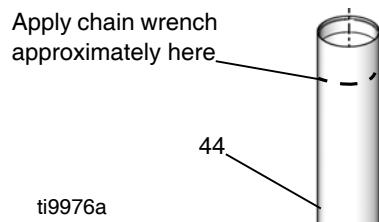
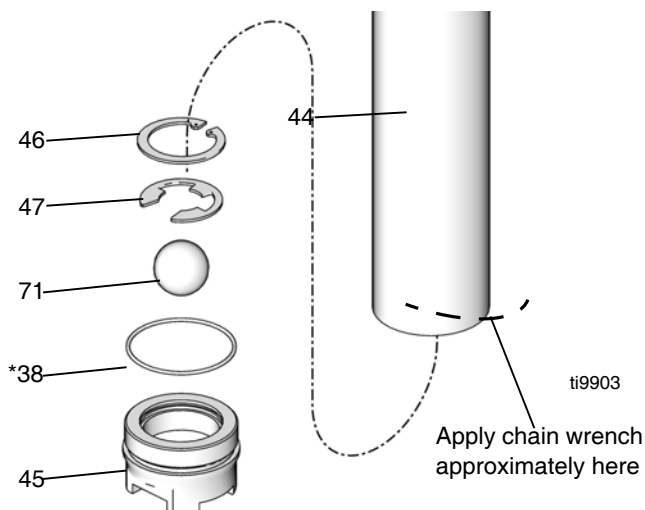

FIG. 16
FIG. 17
2. Use a chain wrench near the top of the suction tube at the point indicated in FIG. 16, and a wrench on the flats of the foot valve (45) to loosen the foot valve from the suction tube (44). To prevent damage to the suction tube, do not remove the foot valve until instructed to do so in step 4.
When removing the suction tube, be very careful not to bend, dent, or damage it. To avoid damage, use the chain wrench only at the top and bottom of the suction tube as indicated in FIG. 16 and FIG. 17. Do not apply the wrench to the middle of the suction tube.
3. With the foot valve still in place to support the suction tube, use a chain wrench near the bottom of the suction tube at the point indicated in FIG. 17, to loosen the suction tube (44) from the pump body (34).
4. Remove the foot valve assembly from the suction tube (44).
5. Remove retaining ring (46), snap ring (47), ball (71), and o-ring (38*) from foot valve (45). Inspect all parts for damage. See FIG. 17.